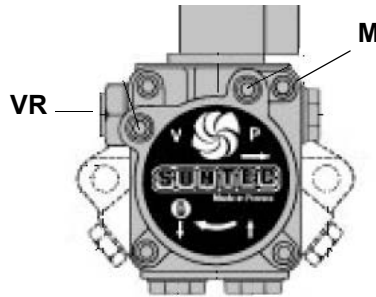
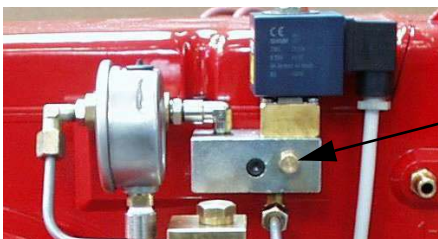

Fig. 17
Fig. 18
- 6 the nozzle supply pressure is already factory-set and must not be changed. Only if necessary, adjust the supply pressure as follows (see related paragraph); insert a pressure gauge into the port shown on Fig. 17 and act on on the pump adjusting screw **VR** (see Fig. 18) as to get the nozzle pressure at 20bar (see table on page 23).